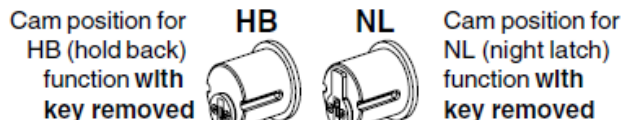

Figure 11-1
- 11.2. Make sure cylinder cam is in position for desired function **with key removed** (Figure 11-1). If not, remove cam and re-install in proper position.